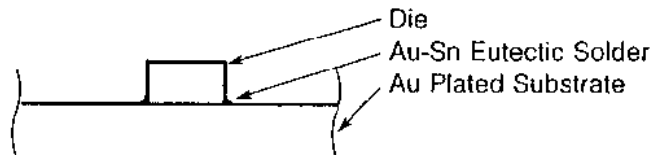

Fig. 1 Die bonding
- (1) Keep the heater stage under the recommended conditions described in item 1.
- (2) Put the dielectric substrate or metals carriers of microstrip circuit on the heater stage.
- (3) Place and melt the As-Sn preform at the correct position where the die is mounted.
- (4) Press the die on the melted preform with a slight wedge and scrub several times to realize uniform adhesion as shown in Fig. 1.